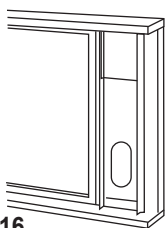

Fig. 16
3. Cut the foam seal (adhesive type) to the proper length and attach it on the top of the window. See Fig. 16.